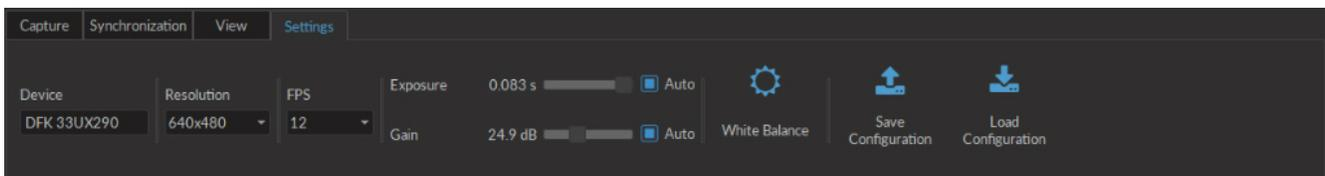

Figure 3.6: Camera Module - Settings Tab
4. The **Settings** tab (Fig. 3.6) contains the controls related to the camera functions.